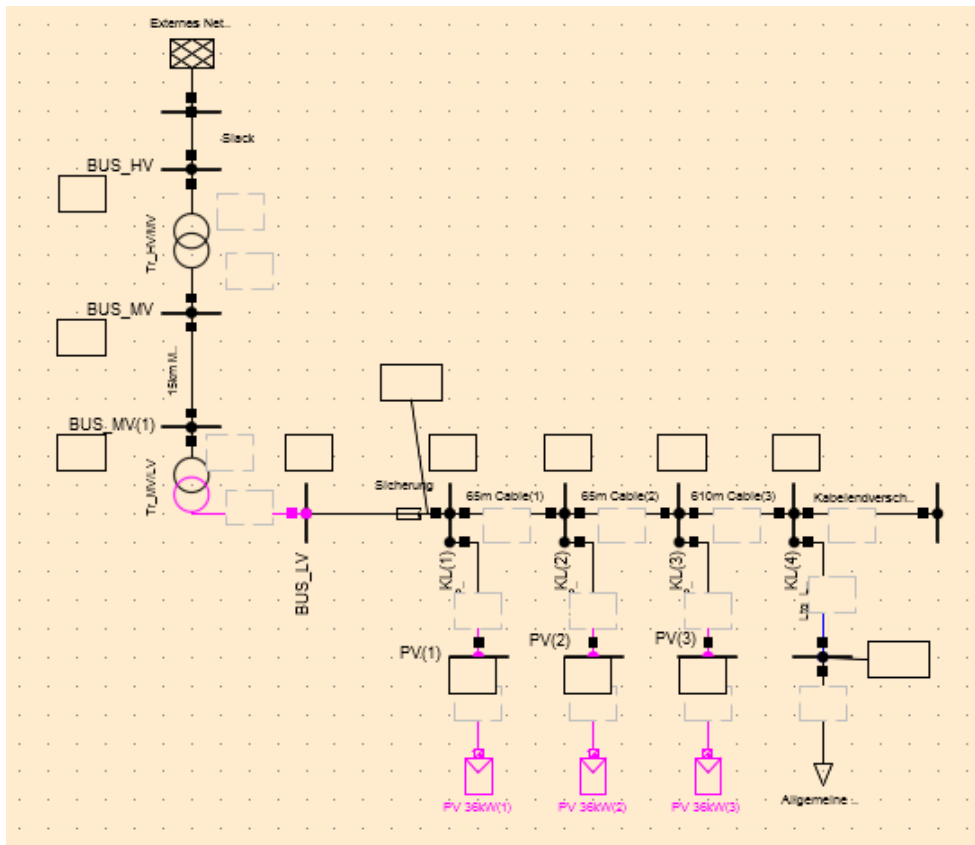
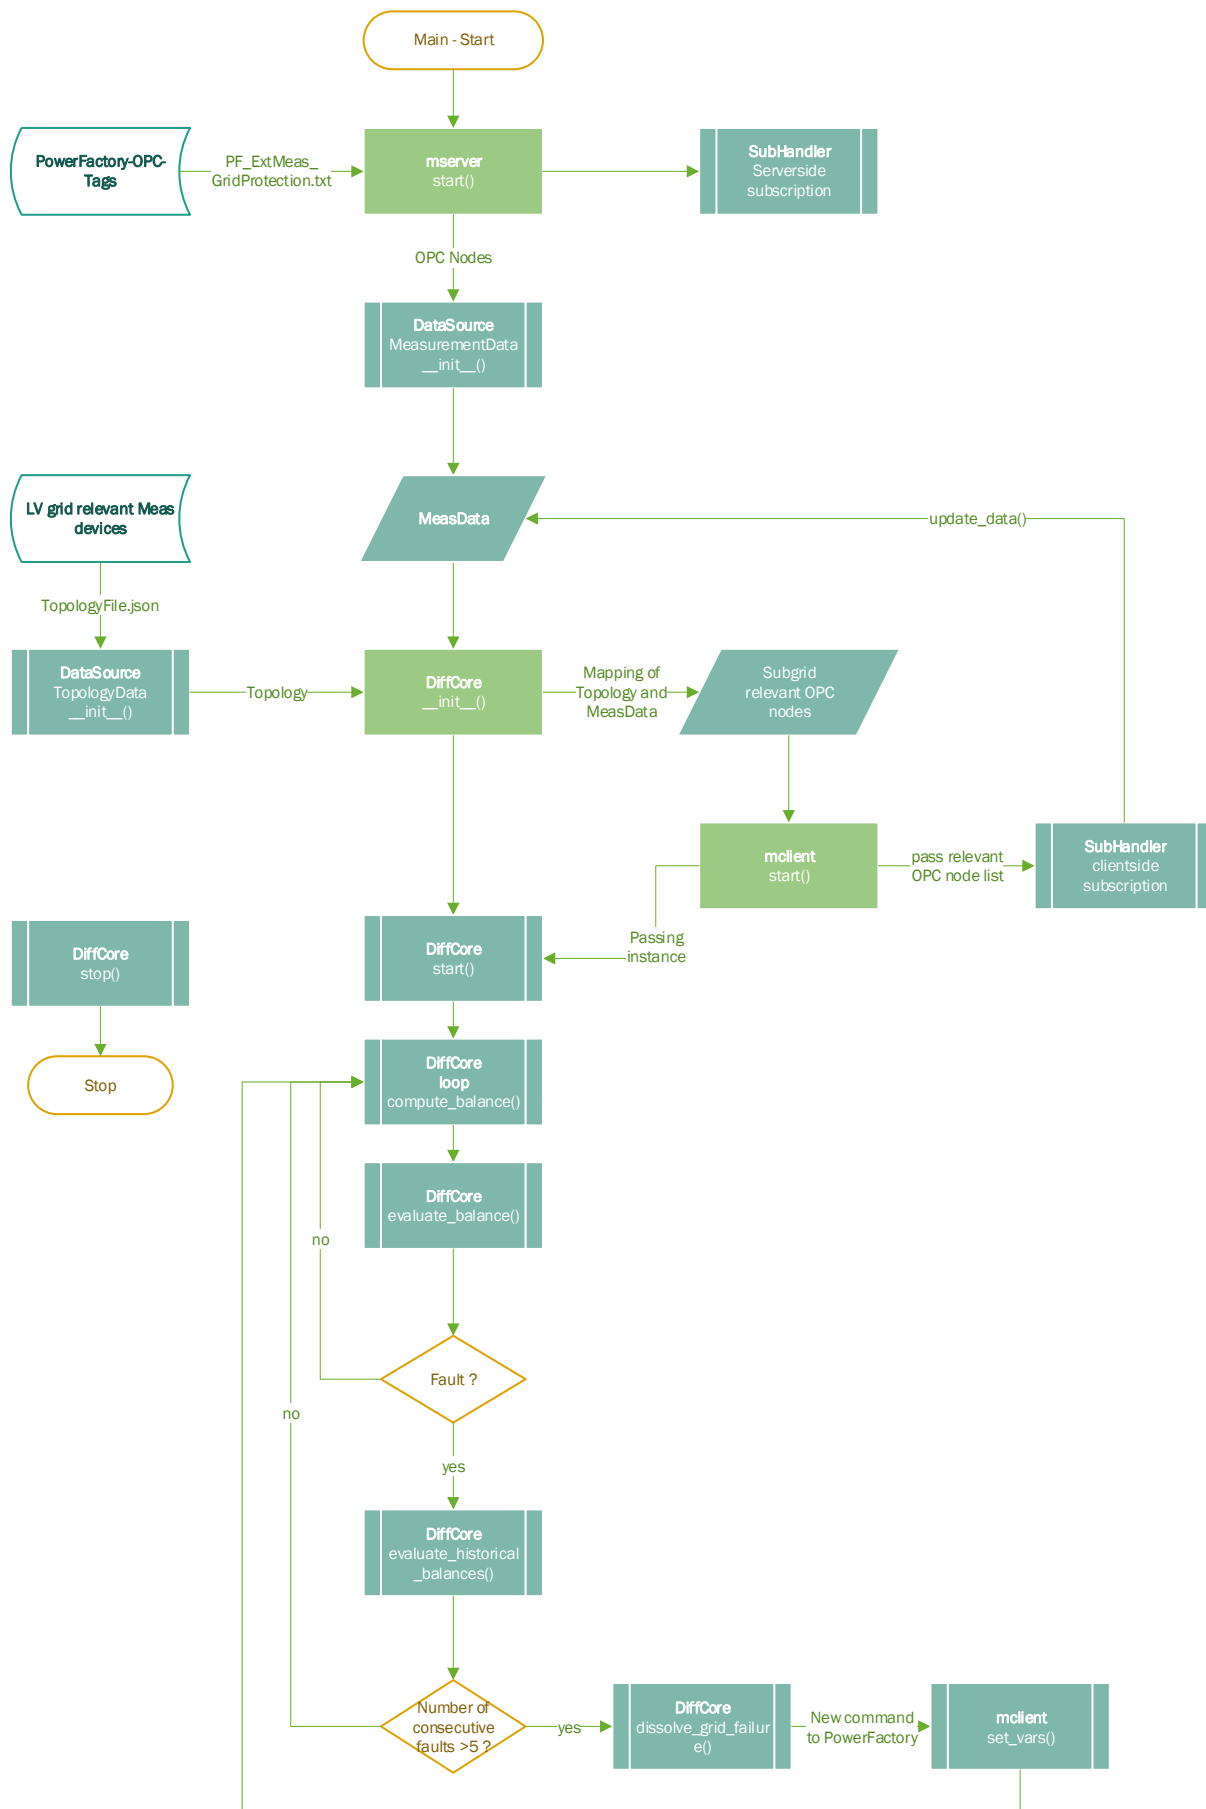

Bild 2: PowerFactory: grid layout ; active external OPC measurement devices are colored in pink
Bild 4: Flow chart for simulation setup
- you will find a simple LV grid with predefined external measurement devices prepared as OPC-UA nodes (cf. Bild 2)
- after you set up Python stuff (cf. Run main.py), execute (1) and check console for success
- start simulation by (2) and (3) at Bild 4 and p.r.n. minimize the PowerFactory window to let OPC-UA-Link work properly
- when simulation stopped, finished by time, ... check (4) and delete newly created events before start simulation again